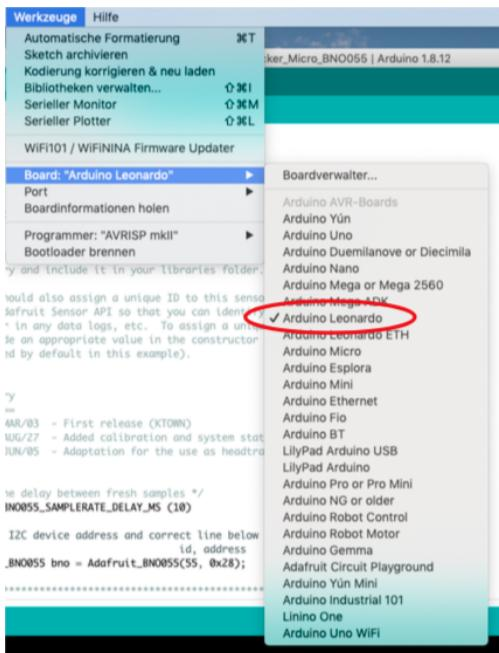

Figure 6: Board selection “(Arduino Leonardo)”
Step 9.3: To program the Arduino Pro Micro, choose the Board “Arduino Leonardo” in the tools section (Figure 6).